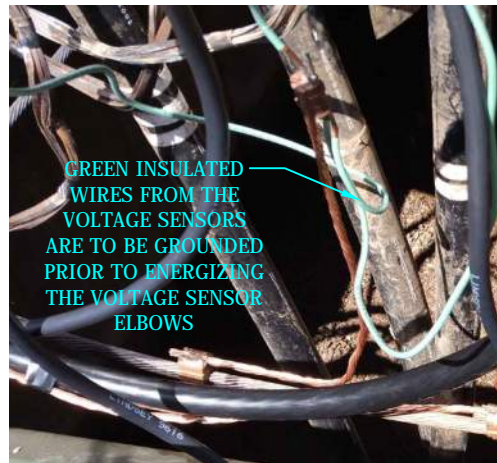

FIGURE 22
R. WARNING: VOLTAGE SENSORS ARE TO BE GROUNDED PRIOR TO ENERGIZING. VOLTAGE SENSOR ARE TO BE CONNECTED TO THE TIE POSITION OF THE SWITCH. IF APPLICABLE USING A FEED THRU DEVICE ON THE P.T. WILL ALLOW FOR THE VOLTAGE SENSOR AND P.T. TO BE CONNECTED TO THE SAME SWITCH POSITION. SEE FIGURE 22.